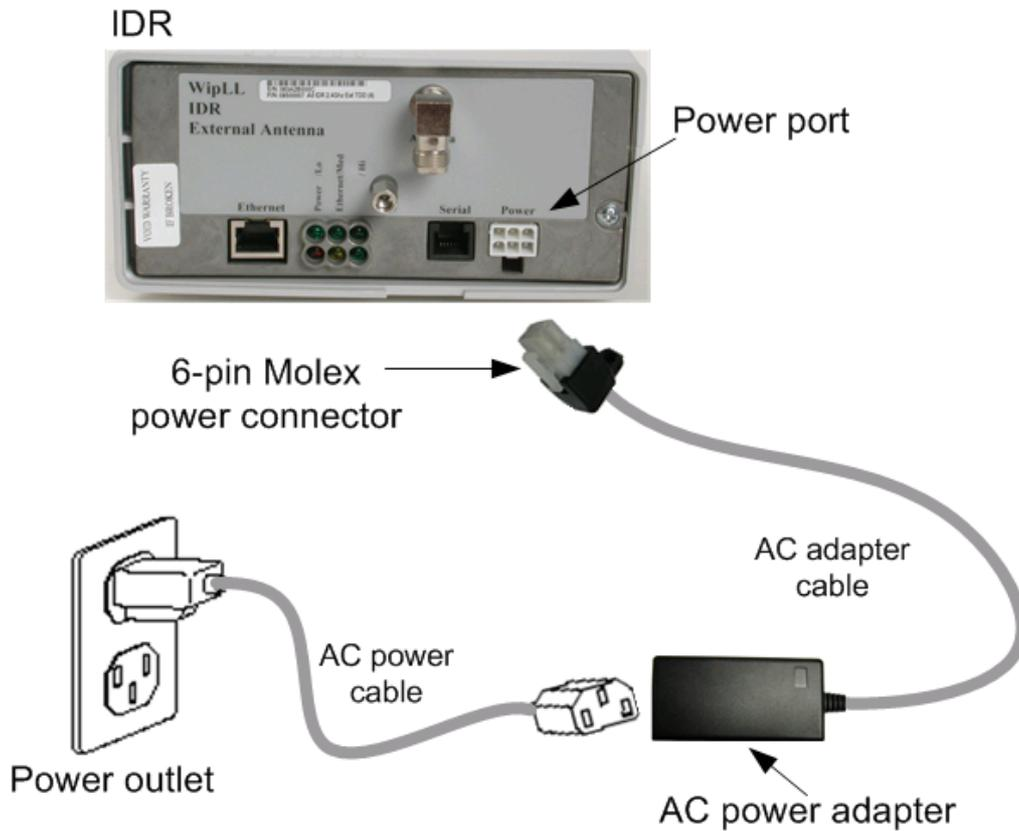

Figure 12-14: Connecting power to the IDR
1. Plug the AC power adapter's **6-pin Molex** connector into the IDR's power port labeled **Power** (see Figure 12-14).
2. Plug the **AC power plug female**, at the one end of the AC power cable, into the AC power adapter's socket (see Figure 12-14).
3. Plug the **AC power plug male**, at the other end of the AC power cable, into the electrical outlet (see Figure 12-14).